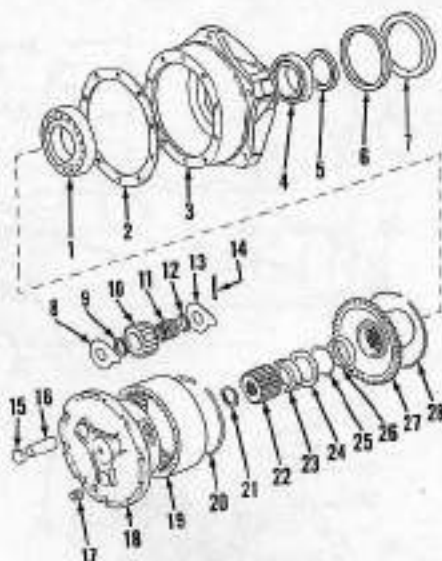

Fig. 20—Exploded view of Model 1690 Carraro front drive axle final drive unit showing component parts and their relative positions.
On 1690 models remove locknut (23—Fig. 20), washer (24) and shims (25).—Note number and thickness of shims.
21. Model 1690 Carraro axles are equipped with taper roller bearings and bearing preload is controlled by adjusting thickness of shims (25—Fig. 20).
Install amount of shims (25—Fig. 20)
Correct bearing preload requires 2.3 N·m (1.7 ft.-lbs.) torque to turn hub. Add or subtract from shim thickness (25—Fig. 20) until correct preload is reached. Install seals (33 and 34—Fig. 17) during final reassembly. Locknut (23—Fig. 20) must be tightened to 1200 N·m (885 ft.-lbs.) torque.
23. Drain fluid and remove planetary gear carrier (18—Fig. 20). Mark gear pins (16), gears (10) and washers (8 and 13) so they may be reassembled in their original positions. Remove roll pin (14) and drive gear pins (16) out of gear carrier from gear side. Core plug (15) will be driven out with gear pin. Remove gear (10) thrust washers (8 and 13), spacers (9 and 12) and bearings (11). Keep these parts with their respective gear pins.